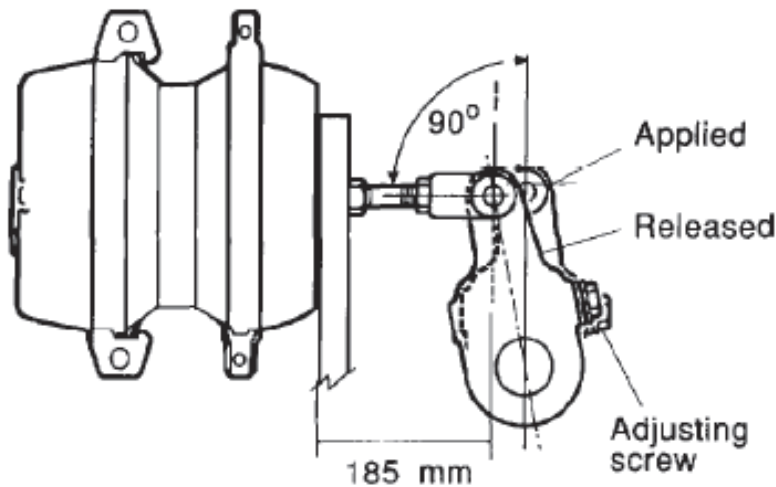

Figure 2 Slack Adjuster Alignment
- The distance from the base of the brake chamber to the centre line of the clevis pin is 185 mm with the brake released (Figure 2).
- 21.** To adjust the brakes, depress the locking ring and turn the adjusting screw clockwise until the brake is applied. Back-off the adjusting screw to achieve the correct adjustment as shown in Figure 2. If necessary, adjust the length of the brake chamber pushrod to achieve the correct settings.